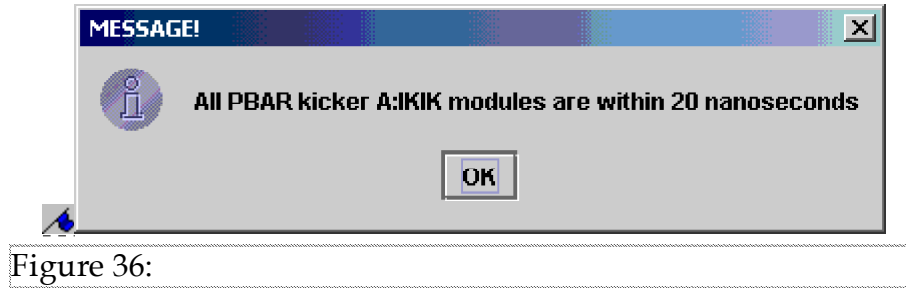

Figure 36:
16. Repeat Step 12 through Step 15 until the kicker traces are aligned within 20 nanoseconds as shown in Figure 36.